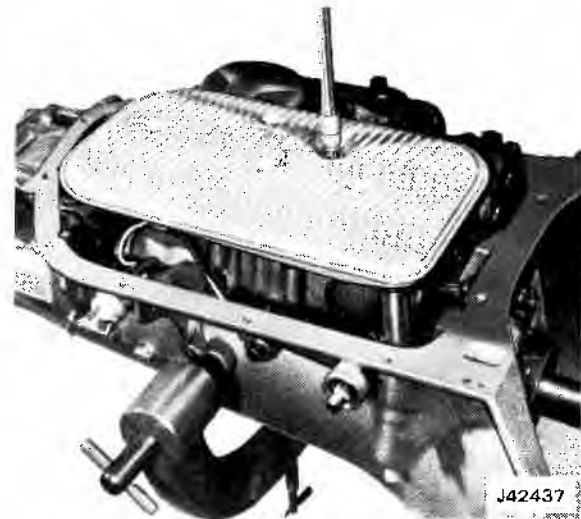

Fig. 7-7 Removing or Installing Oil Filter
- (4) Remove oil filter retainer bolt.
- (5) Remove oil filter assembly from transmission case (fig. 7-7).
- (6) Remove intake pipe-to-case O-ring from intake pipe or case. Discard O-ring.